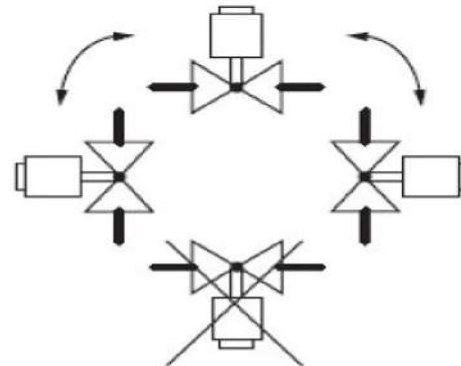

Fig. 5. Mounting position.
### Prepare piping and install valve (Fig. 5)
4. Install valve in a horizontal pipe line, (refer to Fig. 5 for mounting position) with the gas flow matching the direction indicated by the arrow on the casting.